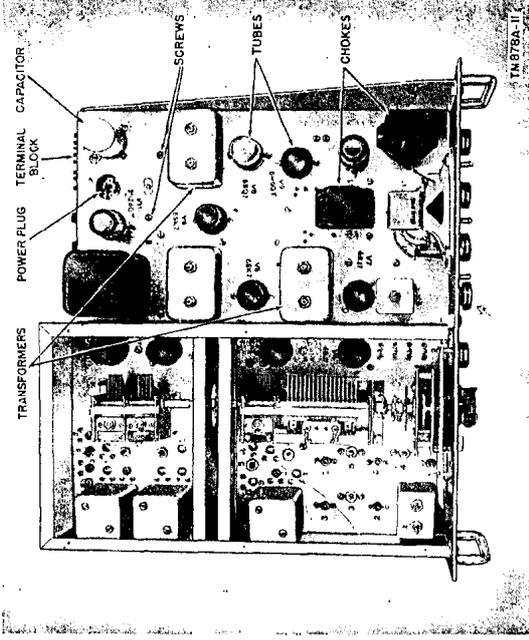

Figure 10. Radio Receiver R-96A/SR, top view showing typical PM items.
a. It is possible to connect the power plug without removing the chassis from the dust cover. This is done by inserting the female socket end of the power cord in the hole provided on the left (looking at the receiver from the rear) side of the receiver. Insert the plug through the terminal opening in the rear and connected to the male socket located in the top of the chassis. See figure 10 for the location of the power socket.
6. Inspection (figs. 10 and 11).